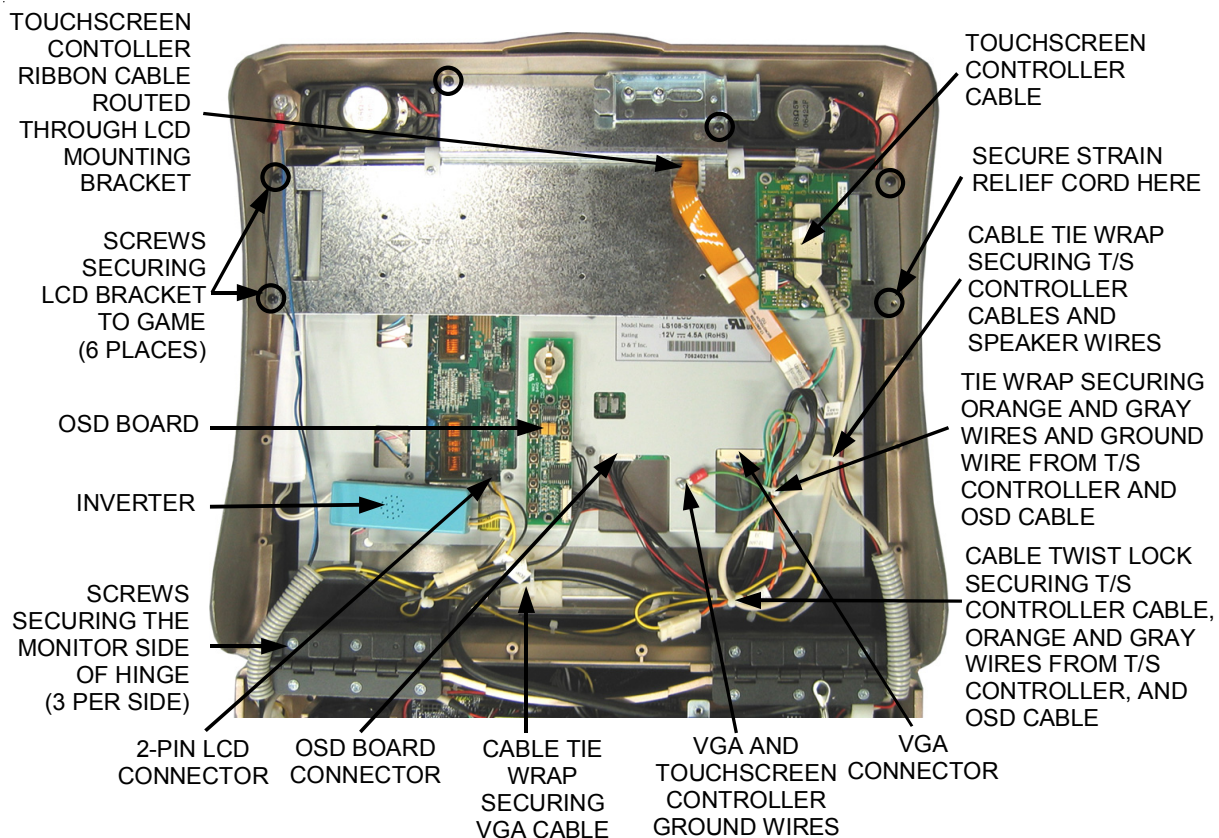

FIGURE 4 – FORESEESON MONITOR IN 17" ION COUNTERTOP GAME
3. *Very carefully* cut the tie wraps securing the touchscreen controller cable to the touchscreen controller. Then, disconnect the cable from the touchscreen controller. See Figure 4.
5. Cut the tie wrap securing the touchscreen controller cables and speaker wires on the back of the monitor (see Figure 4).
6. Cut the tie wrap securing the orange and gray wires and ground wire from the touchscreen controller and the OSD cable. See Figure 4.
7. Remove the touchscreen controller cable, the orange and gray wires (from the touchscreen controller) and the OSD board cable from the cable twist lock. See Figure 4.
9. Disconnect the 2-pin LCD connector, the OSD connector and the VGA connector from the back of the monitor. See Figure 4.
10. Remove the screw and washer securing the VGA and touchscreen controller ground wires to the back of the monitor. See Figure 4.
11. Remove the OSD board and inverter from the Velcro attached to the back side of the monitor and set them aside. See Figure 4.
12. Place something in front of the game to brace the bezel once the strain relief cord is undone, then remove the screw and washer securing the strain relief cord. See Figure 4.
13. Remove the remaining 5 screws fastening the LCD mounting bracket to the game. See Figure 4.
21. Route the touchscreen controller cable through the hole in the LCD mounting bracket (Figure 4).
22. Fasten the strain relief cord under the LCD mounting bracket screw designated in Figure 4. Replace the remaining 5 screws securing the mounting bracket to the bezel. See Figure 4.
23. Tighten the 3 screws per hinge that were loosened during removal of your old monitor. See Figure 4. Make sure the spacers beneath the hinges are aligned correctly as you tighten the screws.
25. Install the 2 existing nylon spacers on the standoffs where the touchscreen controller will be mounted (see Figure 4). If your touchscreen controller did not have nylon spacers, install the 2 provided spacers. Then, secure the touchscreen controller to the standoffs on the LCD mounting bracket using the existing screws.
26. Secure the ribbon cable from the touchscreen controller in the cable clamp on the LCD mounting bracket. See Figure 4.
28. Connect the 2-pin LCD connector to the back of the monitor. See Figure 4.
29. Connect the OSD connector to the monitor. See Figure 4.
30. Connect the VGA monitor connector to the monitor. See Figure 4.
31. Replace the screw and washer securing the VGA and touchscreen controller ground wires to the back of the monitor. See Figure 4.
32. Replace the touchscreen controller cable, the orange and gray wires (from the touchscreen controller) and the OSD board cable in the cable twist lock as shown in Figure 4.
34. Thread the provided tie wrap through the adhesive cable tie wraps just installed and secure the touchscreen controller wires and OSD cable wires in the cable tie wrap shown in Figure 4. Secure VGA cable in the other cable tie wrap in the same fashion.